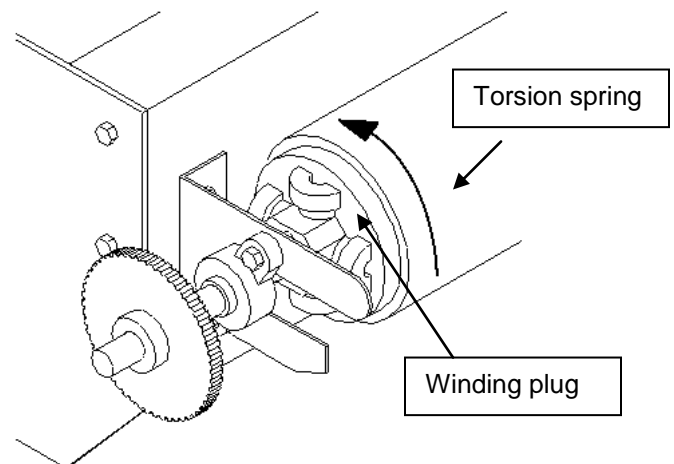

Figure 15
- 1- Release the setscrew, using two winding bars, wind the spring toward the ceiling 3 to 4 turns, (See Figure 15)